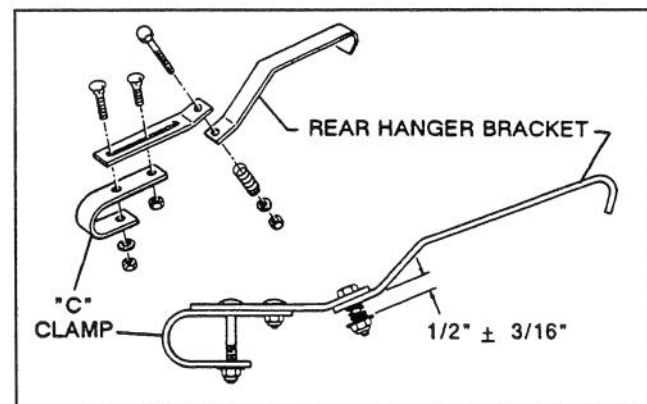

Figure 8
1. Assemble rear hanger bracket (Fig. 8).